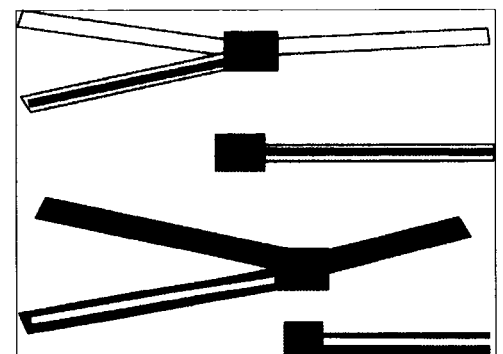

Figure 4
10. Locate the yellow wire w/black stripe coming from the front of the chassis. This portion of the wire will not be reused. Cap off this wire with a heat shrink butt connector or the equivalent. (Figure 4)
11. Repeat step 10 for the dark green w/white stripe wire coming from the front of the chassis. (Figure 4)